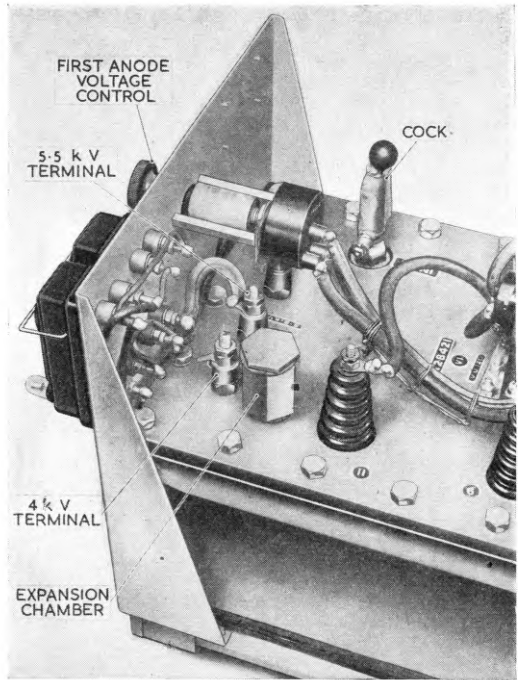

Fig. 42. Power units Type 377 and 451
**66.** This paragraph gives details of the "jumpering" necessary for AMES Type 21 Mk. 5. When making a connection, first locate the bunch of cables bearing the number in the first column ; next identify the tail bound by tape of the colour given in the second column. Insert this tail in the Jones socket lettered and numbered as detailed in the third and fourth columns ; the positions of all the Jones plugs and sockets in the vehicle are shown in fig. 42 of Chap. 4. Tails which are to be inserted in a spare socket must be plugged into one of the Jones sockets marked SPARE ; it is most important that these leads are not left lying about.
**75.** Lower the right-hand control desk to expose the power unit (fig. 42). Behind the front panel can be seen two terminals marked 4kV and 5.5kV respectively. Check that the tapping is connected to the 5.5kV terminal and change if necessary.